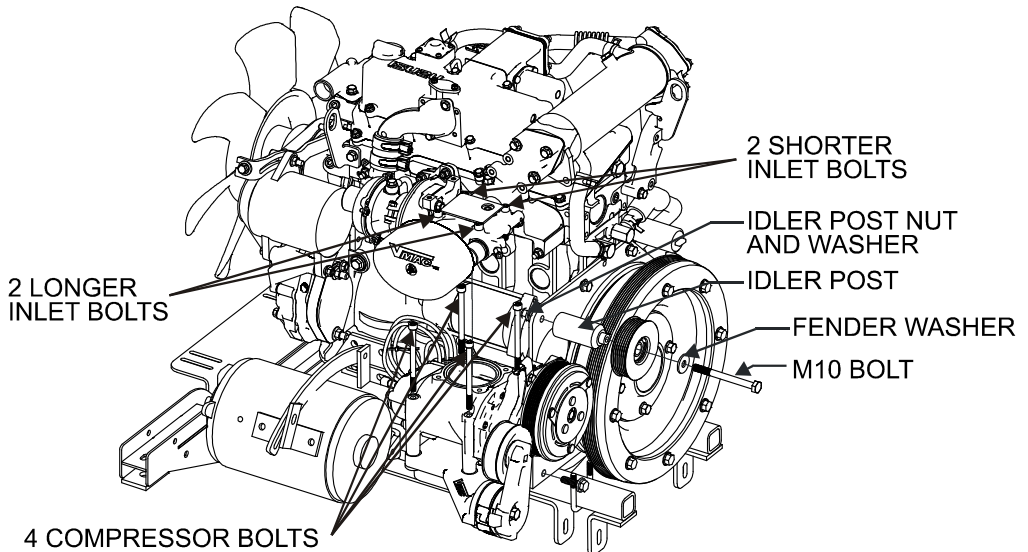

Figure 4.2
- Install idler post and idler to rear engine plate above the starter. Apply loctite and install with fender washer covering bearing under the head of the bolt and nut and washer behind engine plate. See figure 4.2.